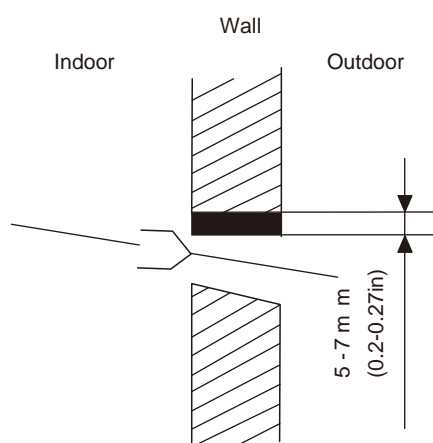

Fig. 4.3
2. Using a 65mm (2.5in) or 90mm(3.54in) (depending on models) core drill, drill a hole in the wall. Make sure that the hole is drilled at a slight downward angle, so that the outdoor end of the hole is lower than the indoor end by about 5mm to 7mm (0.2-0.27in). This will ensure proper water drainage. (See Fig. 4.3)